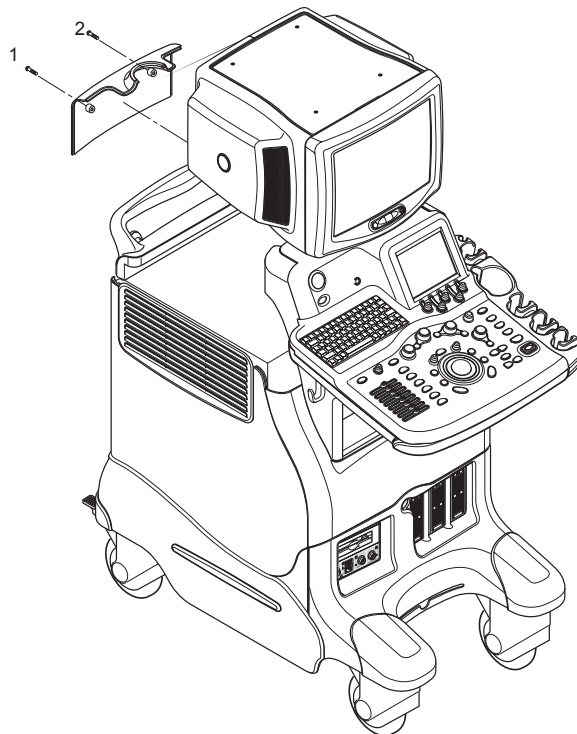

Figure 8-90 Removing OP Rear Cover
- 2.) Remove OP Rear Cover. Refer to Figure 8-90 on page 8-44 .